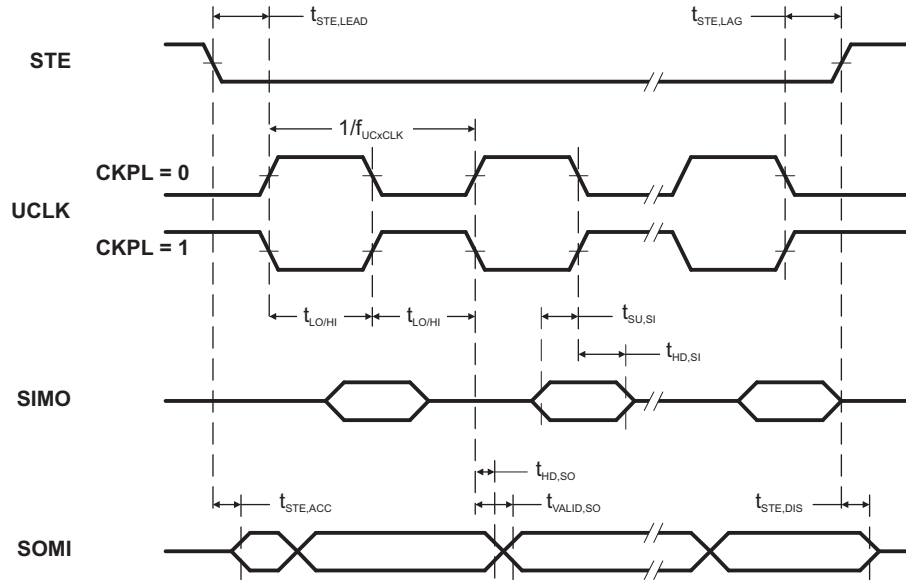
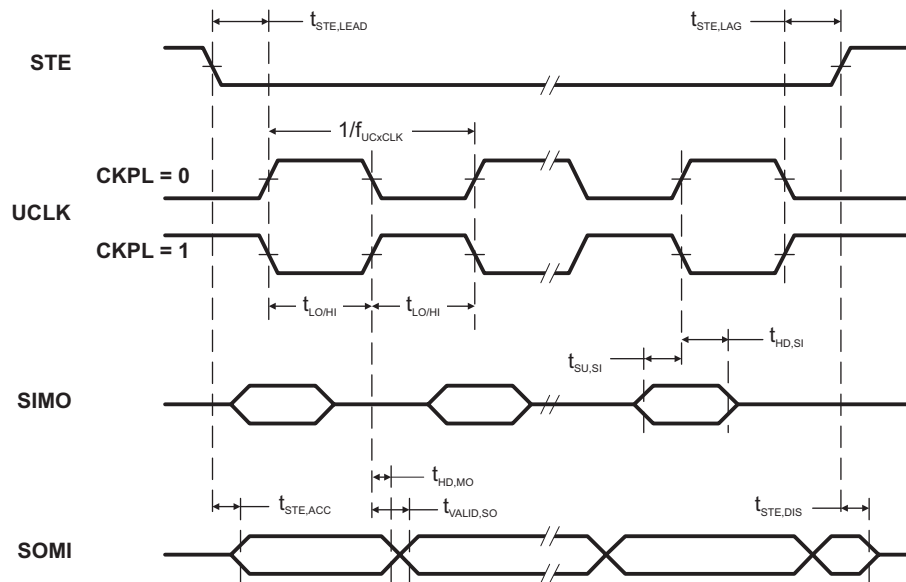

Figure 5-13. SPI Slave Mode, CKPH = 0
Figure 5-14. SPI Slave Mode, CKPH = 1
(see Note (1), Figure 5-13 and Figure 5-14)